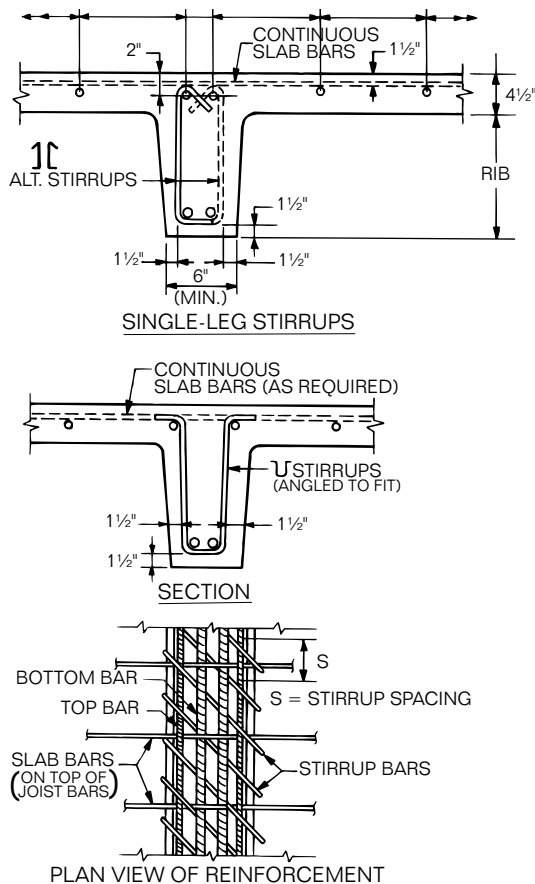

Figure 3 – Details for Single Leg and Common U-Stirrup Applications for Shear Reinforcement in Wide-Module Joist
4. **Reinforcing steel requirements and recommended details.** Alternative arrangements to provide required shear reinforcement include the common open U-stirrup. With minimum rib widths, the maximum size of the main tensile reinforcement becomes limited by concrete cover requirements. And with minimum rib widths, fabricating constraints may require wider U-stirrups. These conditions may require that the U-stirrups be angled to fit. For minimum rib widths, the use of single leg stirrups simplifies placing. A special note should be included on the design drawings and placing drawings to require alternating of the stirrup positions. See Figure 3.